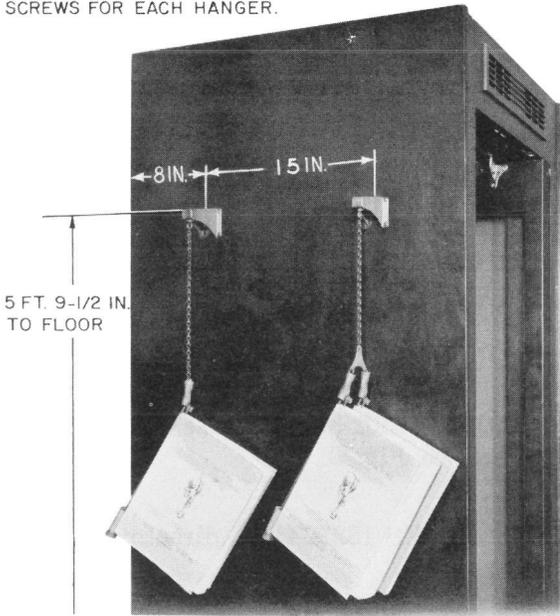

Fig. 4 — KS-13350-Type Hanger Installation
- Outside panels of wood booths (Fig. 4).
- Wall surfaces with the use of backboards. Install in same manner as Fig. 4.